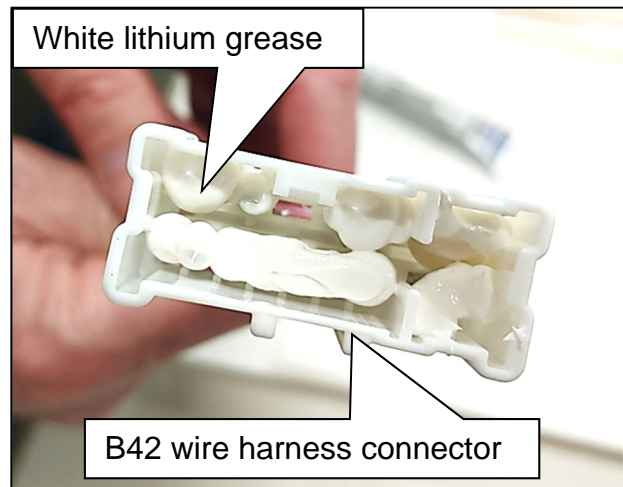

Figure 22
- Apply grease around all sides of all terminals in the connector, making sure the level of the grease comes up to the top of the terminals, as shown in Figure 22.